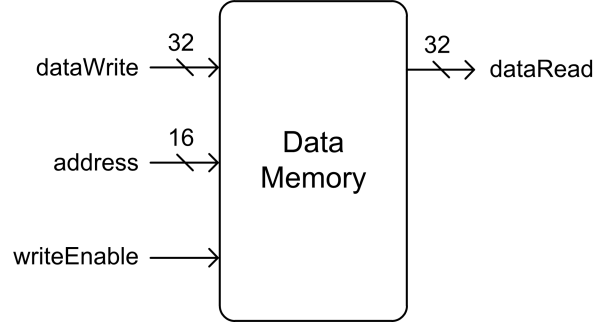

Figure 4: Interface of the DataMemory module.
image and the processed images. The DataMemory has a size 65536 words of 32 bits and the accelerator can write or read to this memory. Figure 4 shows the interface of the memory. When the `writeEnable` input is false (0) the memory can be read in the same way as the ProgramMemory. When the `writeEnable` input is true (1), the 32 bits data provided to the `dataWrite` input is written in the specified `address`. Figure 5 shows the timing diagram for a read and for a write operation.